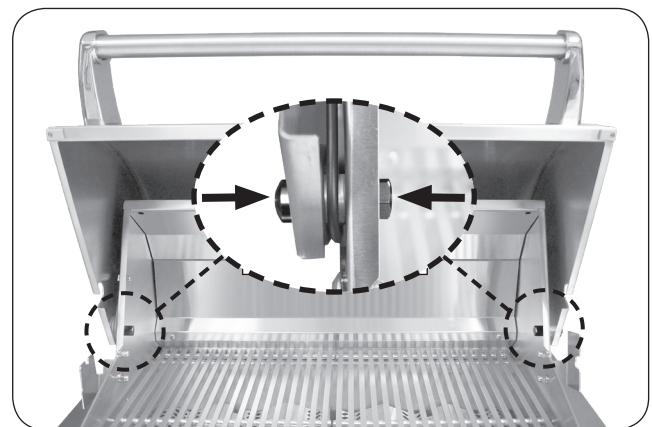

Fig. 3-4 Secure hood with nuts and bolts
10. Align the hood, insert the two bolts, and fully secure with nuts as shown in Fig. 3-4.